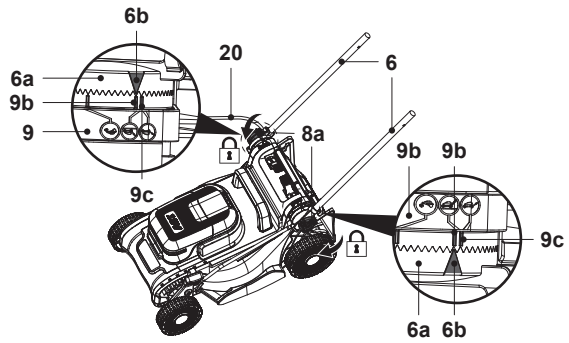

Fig. 2
3. Align the indicating triangle (6b) on dial plate (6a) with one of the handle height indicators (9b/9c) on handle support (9), then secure the lower handle bar (6) by tightening the locking knob (8a) (Fig. 2).
4. Repeat the above assembly on the other lower handle bar (6).
5. Ensure the two lower handle bars (6) are assembled on the same height level on both sides.
6. Make sure that the control cord (20) runs on the upper side of the lower handle bar (6).